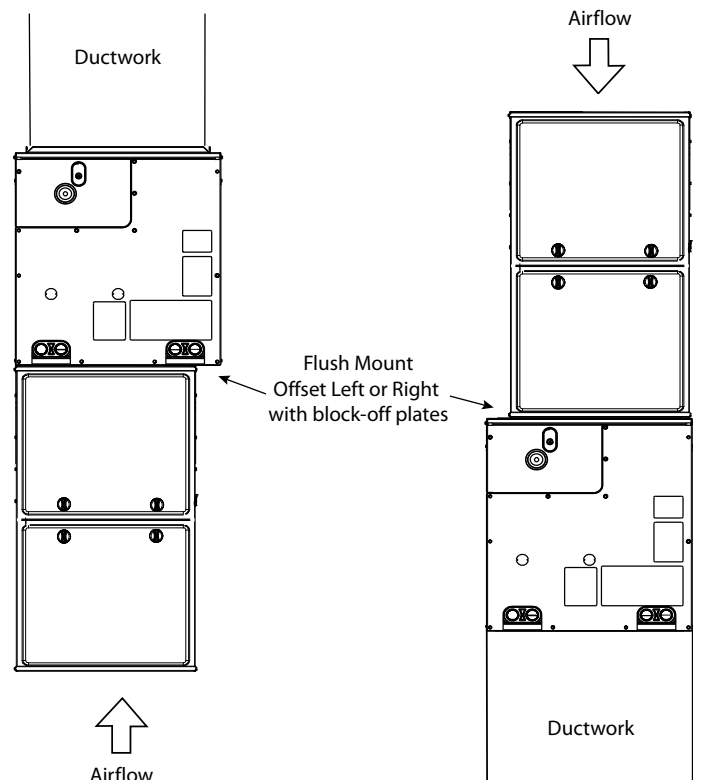

**Fig. 3 – Adapter(s) Installation When Coil is Larger than Furnace (recommended)** A200228B
3. When installing wider coil on narrower furnace, it is recommended to use a transition adapter (Fig. 3).